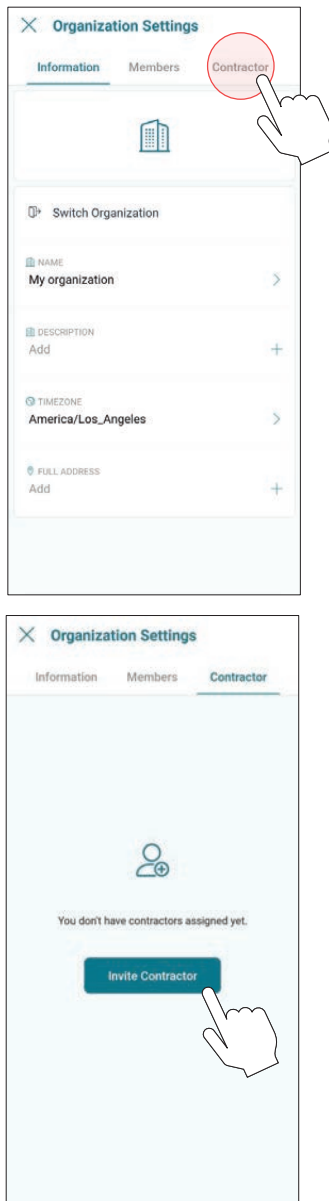

Figure 110. Click on “Invite Contractor”
5. Go to **[Contractor]** tab, and press [Invite Contractor]. See Figure 110.